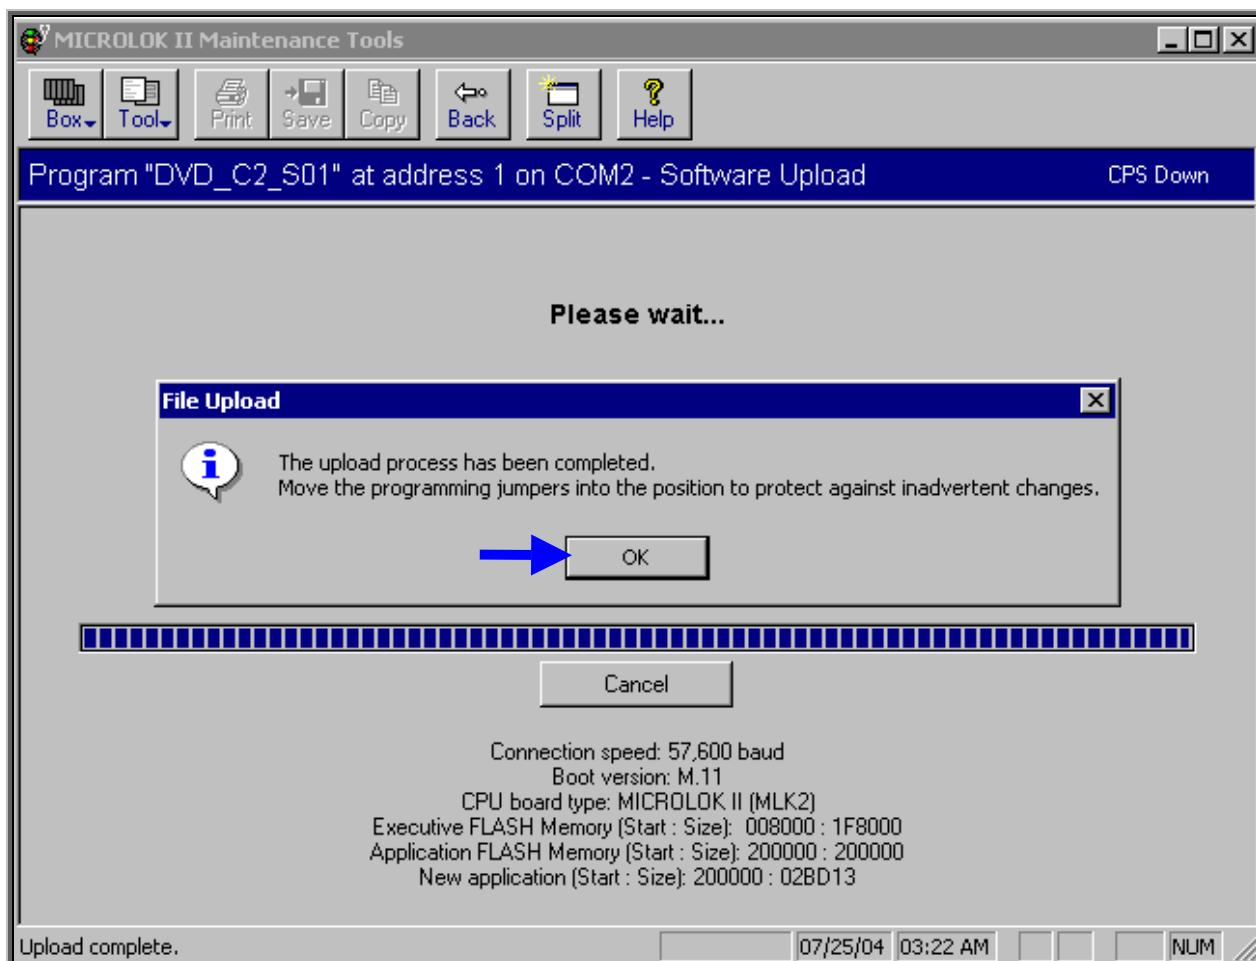

Figure-5.9.10
- ❖ After the program upload, a “File Upload” mini active window appears & System resets automatically once (Figure-5.9.10).